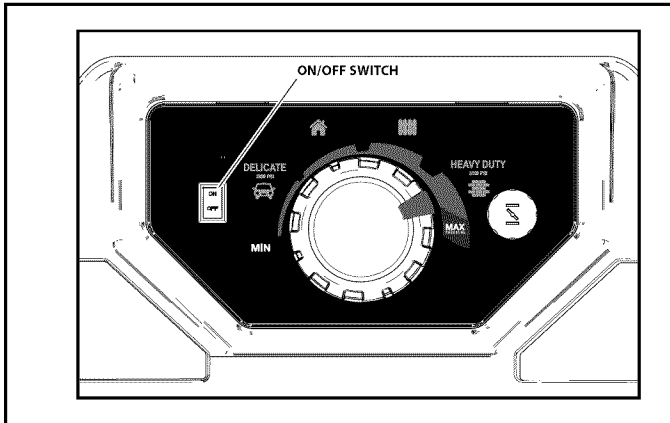

Figure 5-2. ON/OFF Switch
1. Turn the ON/OFF switch to the “ON” position (Figure 5-2).